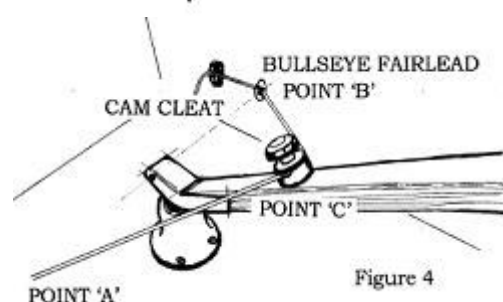

Figure 4
- c) The anchor points could be at points 'A' and 'B' as in Figure 4, but it will be different from boat to boat